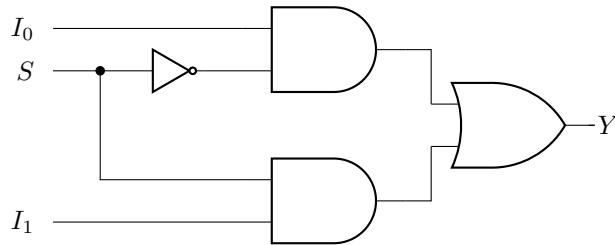

Figure 1: Logic Diagram of 2-to-1 MUX using Basic Gates.
Figure 1 shows the gate-level implementation of the 2-to-1 MUX.
3. Construct the circuit according to Figure 1 using jumper wires.